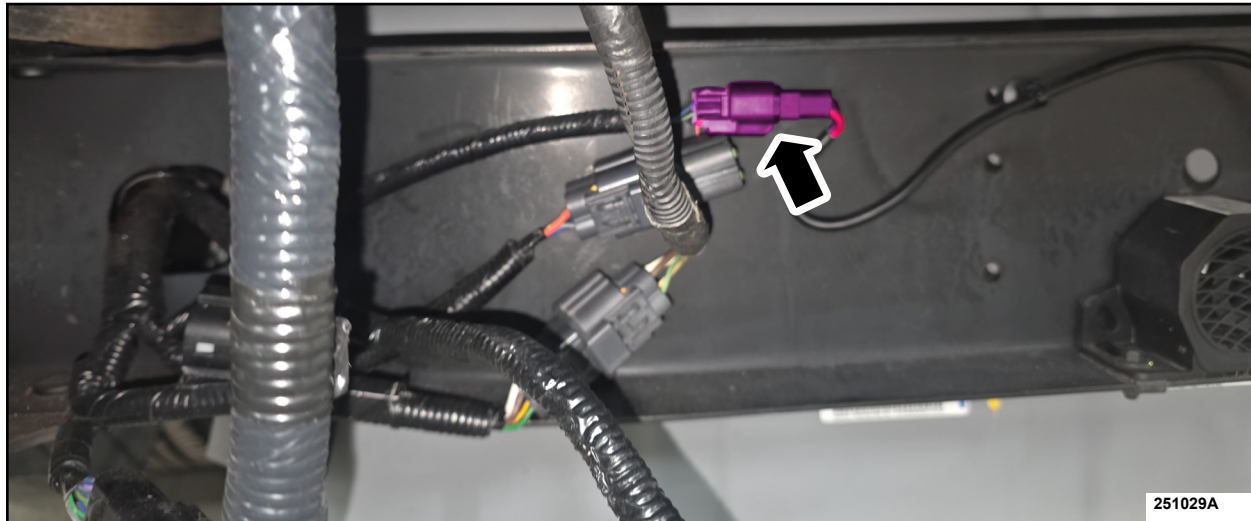

FIGURE 2
2. Using a trim tool or equivalent, remove the exterior sounder (backup alarm) connector C4558 and fir tree retainer from the vehicle cross-frame assembly. See Figure 2.